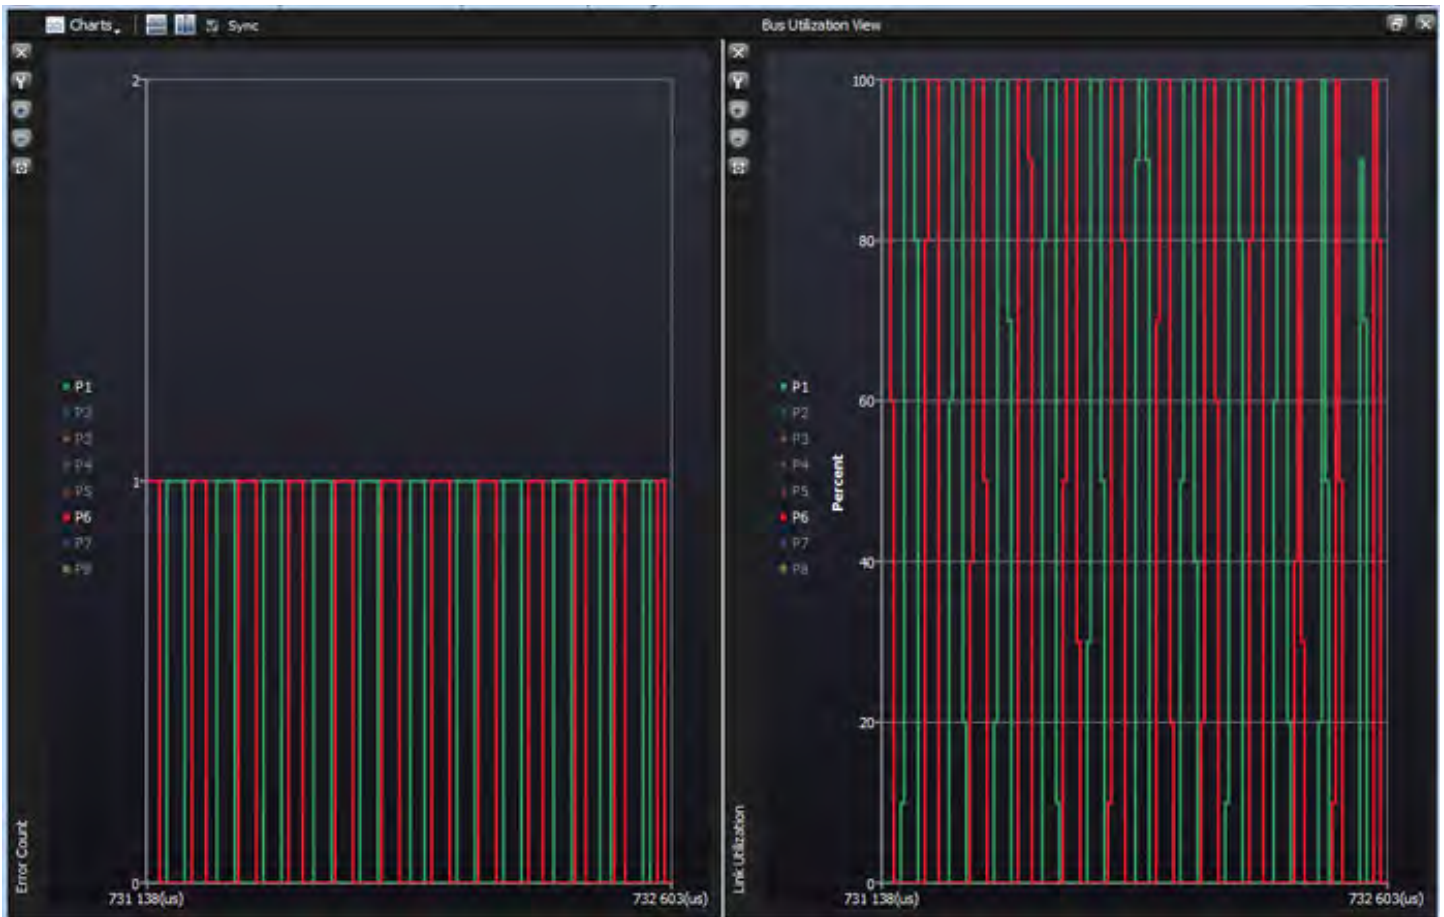

Figure 5.94: Bus Utilization Windows – Tiled Horizontally
- Tile Horizontal (Display window side by side; see Figure 5.94.)